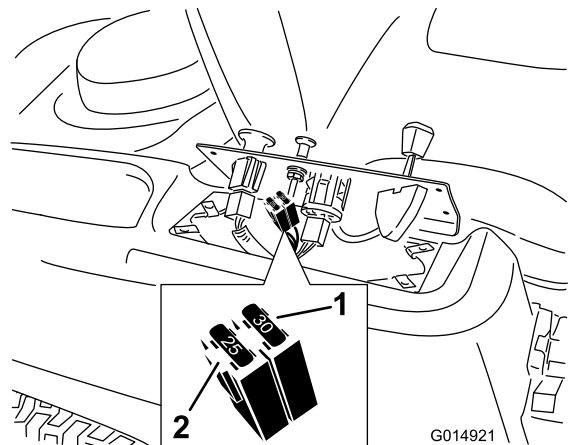

Figure 50
2. Lift the control pane up to access the main wire harness and fuse block (Figure 50).
3. To replace a fuse, pull out the fuse to remove it (Figure 50).